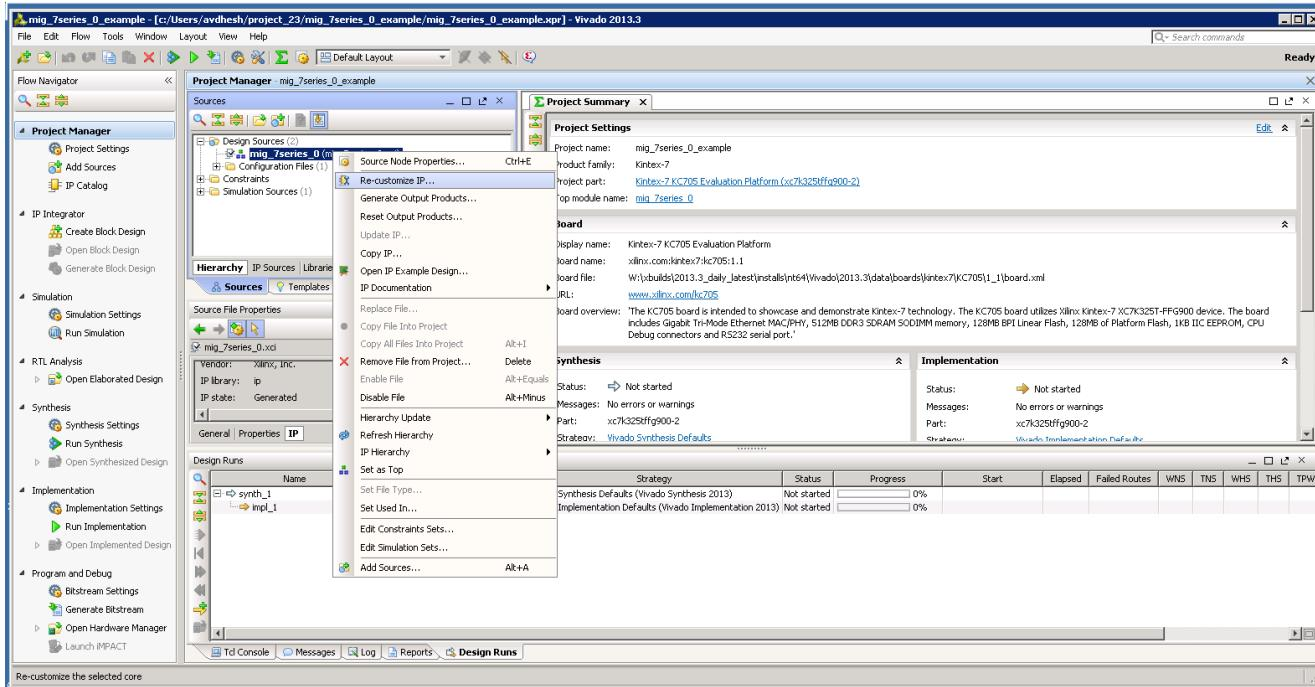

Figure 2-37: Recustomize IP
12. Recustomization of the MIG IP can be done by using the **Recustomize IP** option. It is not recommended to recustomize the IP in the example\_design project. The correct solution is to close the example\_design project, go back to original project and customize there. Right-click the XCI file and click **Recustomize IP** (Figure 2-37) to open the MIG GUI and regenerate the design with the preferred options.